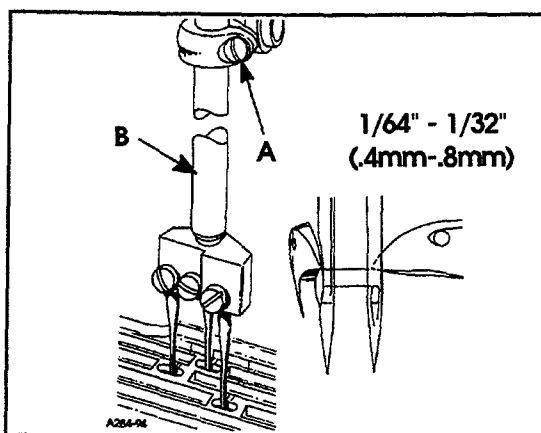

FIG. 9
The height of the needle bar is correct when the top of the needle eye is 1/64" to 1/32" (0.4mm - 0.8mm) below the underside of the looper, with the looper point even with the right side of the needle. To make adjustment loosen screw (A, Fig. 9) and move needle bar (B) as required to attain dimension.